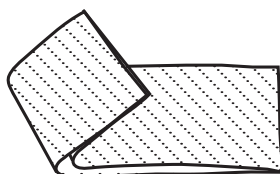

Figure 19
2. Turn bands right side out and press (Figure 19).